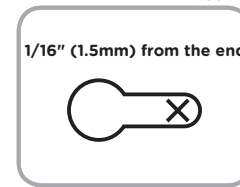

FIGURE 7
2. To mount the LED Driver, place the LED Driver in desired location and clearly mark the locations for the mounting holes (see Figure 7).